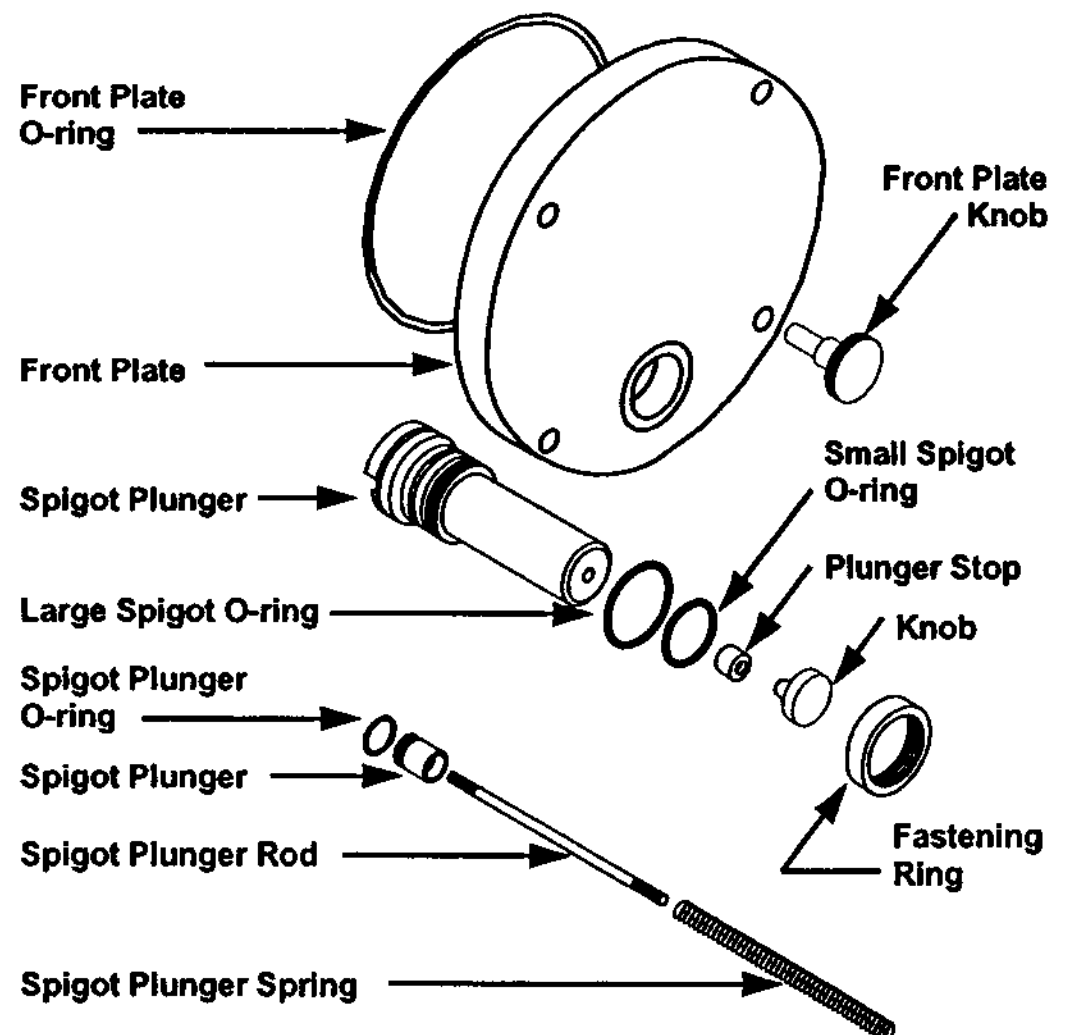

**Fig. 33**
- b. Slide the lubricated spigot plunger into the front plate (Fig. 33) making certain that the spigot handle slot is aligned to the front.